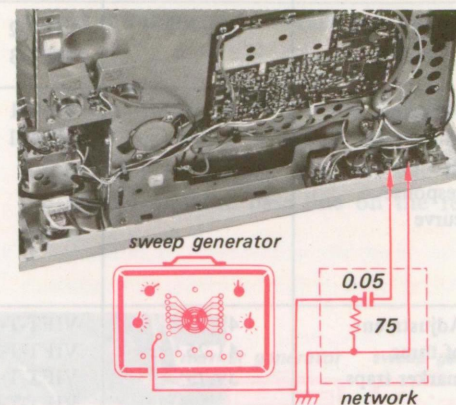

Fig. 4-15. Sweep connections for adjustment of second bandpass amplifier
4. Connect a sweep generator to the center terminal of color control VR-904 through the network shown in Fig. 4-15.